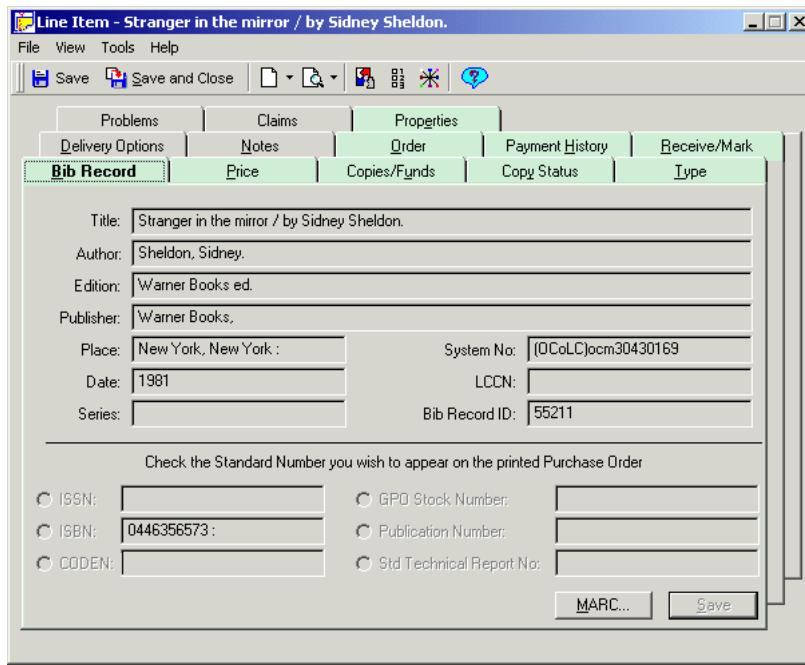

Figure 13-3. Line Item dialog box - Bib Record Tab
- The **MARC** button on the **Bib Record** tab (Figure 13-3) of a line item, which displays brief descriptive data from the bibliographic record associated with the line item. See Bib Record Tab on page 6-39 for more information.